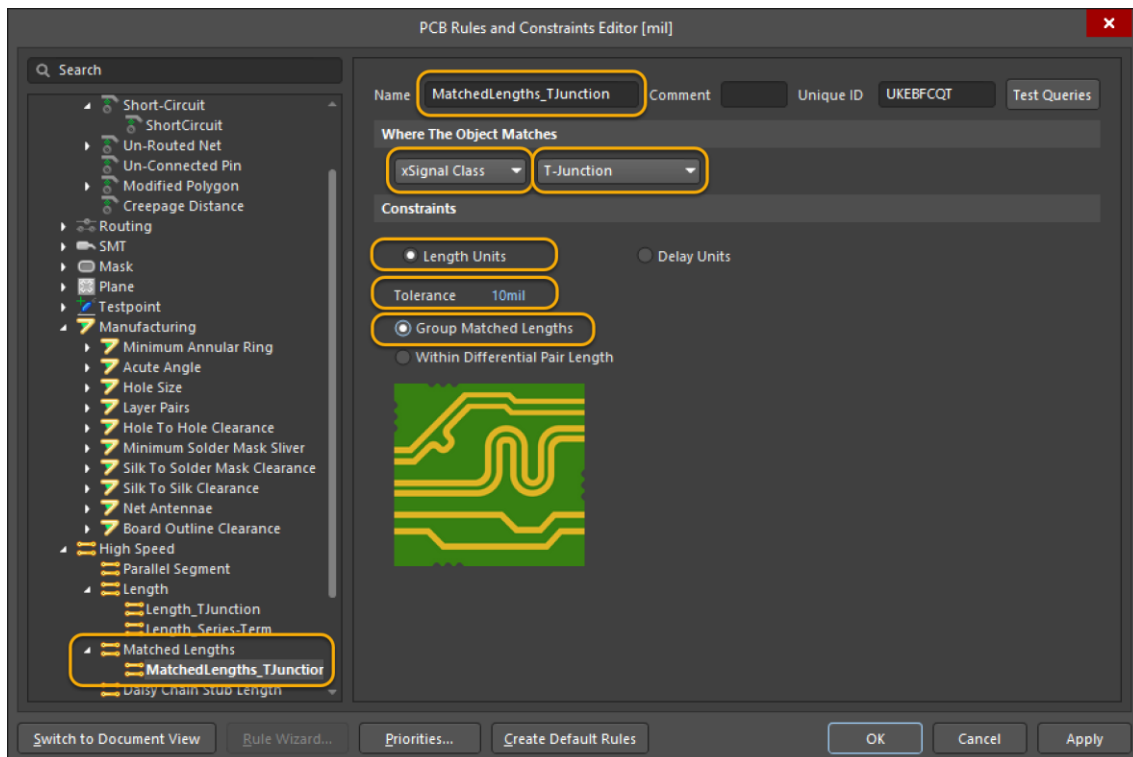

Figure 20. Matched Lengths rule for TJunction
46. Using Figure 20 as a reference, set the following rule parameters as shown below.